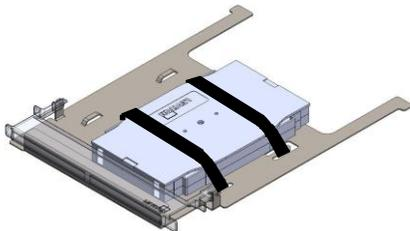
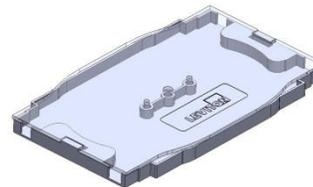

Figure 5
Figure 6
(1)	Instruction Sheet
- G. **Splice Tray**– The Splice Deck Tray (Figure 5) allows for the splicing of up to 48 strands of fiber. Up to 2 Injected Molded Splice Trays, Leviton #T5PLS-24F (Figure 6, sold separately) can be located in each Splice Deck Tray with three trays per deck.